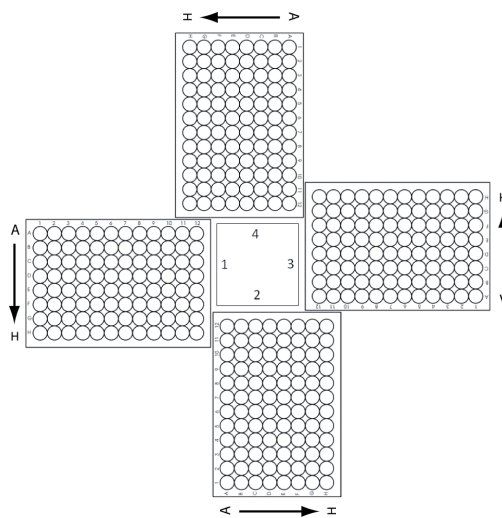

Figure 13 Agilent Labware MiniHub plate orientation. For Thermo Scientific reservoirs, place the notched corner facing the center of the hub.
- 15 Load the Labware MiniHub according to Table 37, using the plate orientations shown in Figure 13.
- Load the Labware MiniHub according to Table 42, using the plate orientations shown in Figure 13.